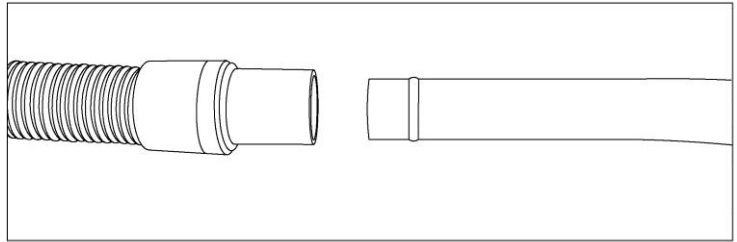

Fig. 8
- To connect the hose and attachment wand, slide the hose over the hose end wand attachment and over the bump by approx.  $\frac{1}{2}$ ". (Fig. 8)